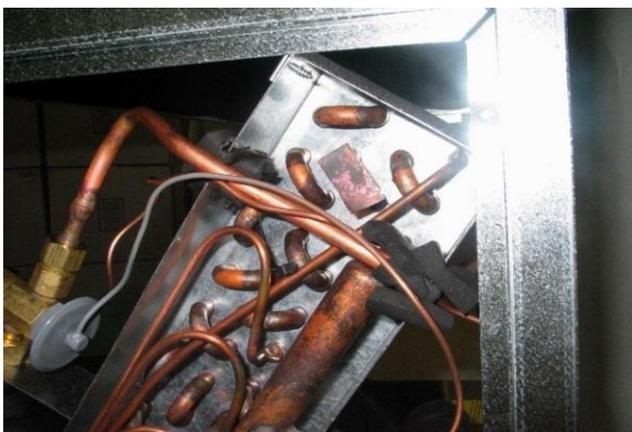
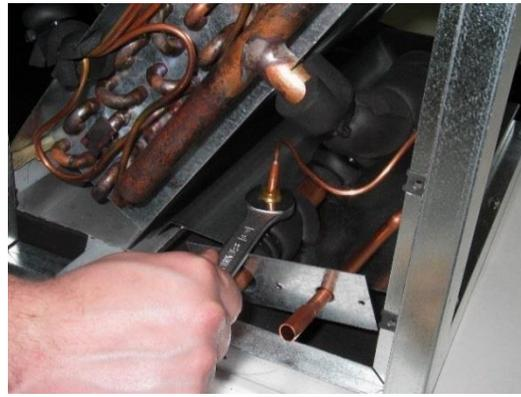

Figure 27. External equalizer line and thermostatic bulb line location routing
Figure 28. Tighten Pressure Tube Nut
3. Route both the external equalizer pressure tube and the thermostatic bulb tube (Figure 27). Then tighten the external equalizer line to the flare connection (Figure 28).